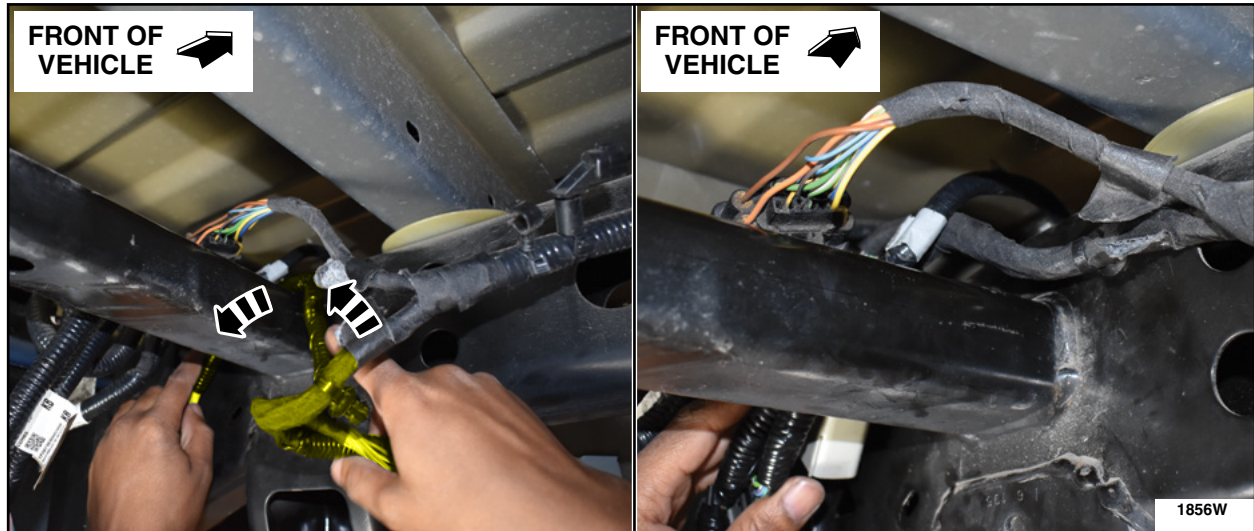

FIGURE 25
28. Route the male end of the *new* jumper pigtail, C405 and C408 halves under the attached wire harness and over the frame. See Figure 25.